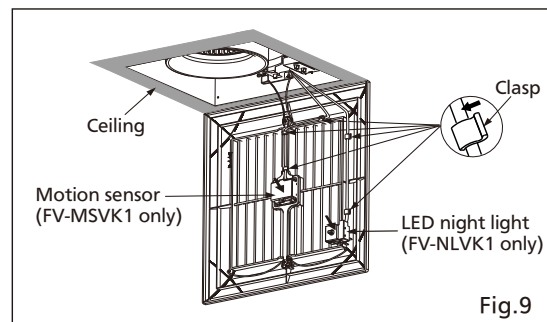

Fig.9
- ① Keep on pressing the clasps when removing the ornamental cover.
- ② Insert the sensor cover (attachment for FV-MSVK1) into slot.
11. Insert the grille mounting spring on the wiring side into the slot. (Fig.9)
12. Plug in the specified devices as your choice (refer to installation on page 8). Insert the motion sensor (FV-MSVK1 only) or LED night light (FV-NLVK1 only) into slot of the grille. Fix the lead wire into the clasp (Fig.9).